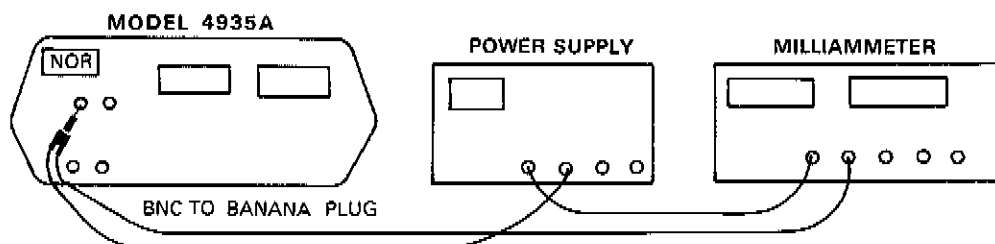

Figure 5-1. Hold Circuit Adjustment
1. Connect equipment as shown in Figure 5-1.